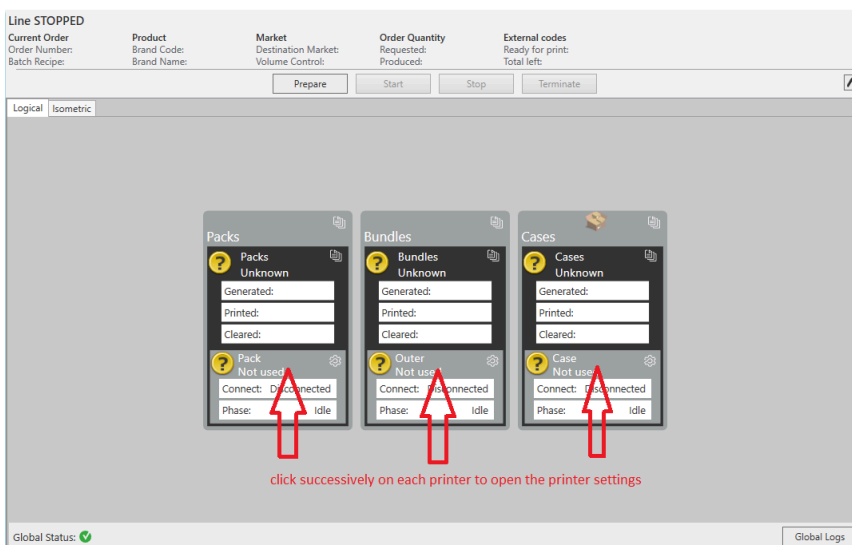

figure 1: Liz Dashboard
1. Go to **Liz Dashboard** and click on the settings icon for each printer (see figure 1)